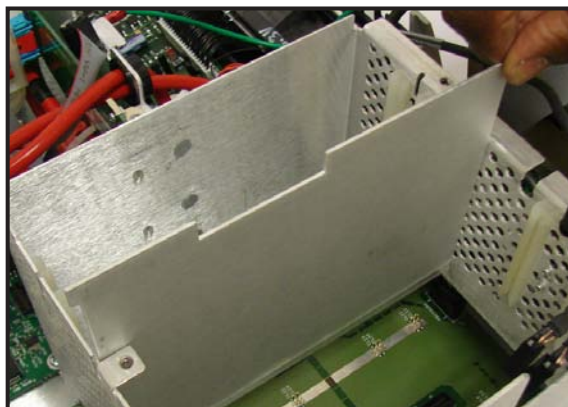

Figure 6-37
5. Pull up the three insulating metal sheets to release them from the front-end motherboard and remove them from the card cage (See Figure 6-37).